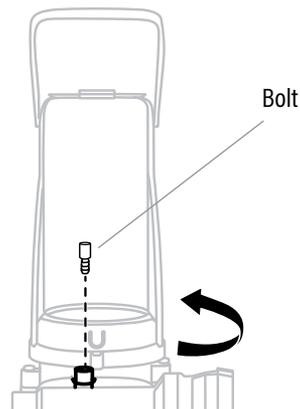

Fig. 6B
3. Rotate the chute to give access to the bolt installation. (Fig. 6B)
4. Install and tighten the bolt. (Fig. 6B)
1. Unscrew and remove the bolt. (Fig. 6B)